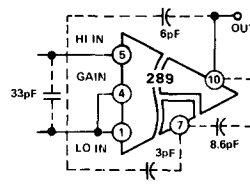

Figure 3. Model 289 Terminal Capacitance
**Capacitance:** Interelectrode terminal capacitance, arising from stray coupling capacitance effects between the input terminals and the signal output terminals, are each shunted by leakage resistance values exceeding 50GΩ. Figure 3 illustrates model 289's capacitance, between terminals.